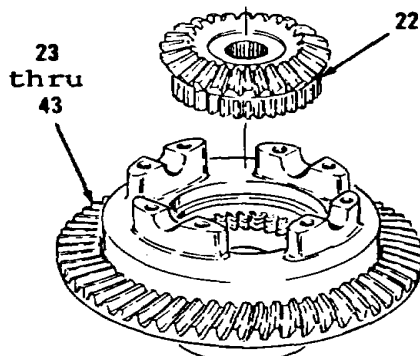
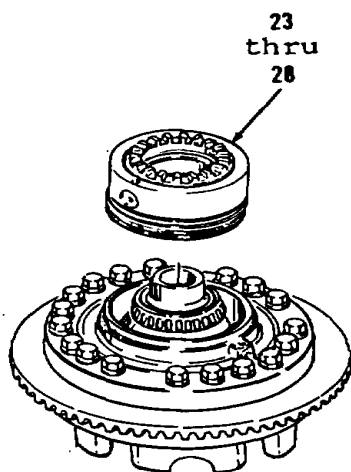

Figure 14-127.
Figure 14-128.
10. Remove gear (22, Figure 14-127).
11. Turn items 23 thru 43 as an assembly upside down.
12. Remove items 23 thru 28 as an assembly (Figure 14-128).